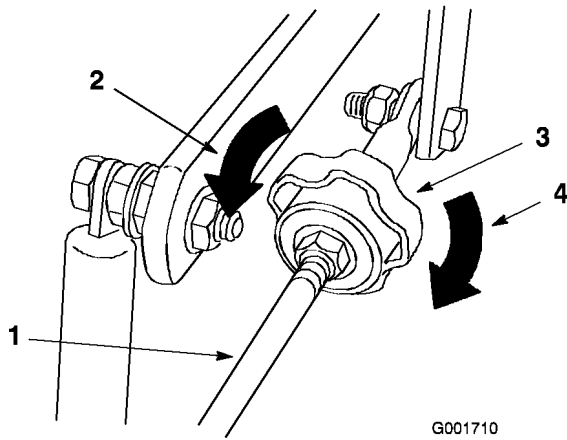

Figure 74
2. Adjust the pump rod length by rotating the knob, in the appropriate direction, until the wheel is still or slightly creeping in reverse (Figure 74).